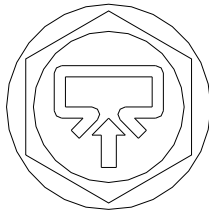

Figure 2.2a: oil filling plug
- Unscrew oil filling plug (figure 2.2a) above the oil level glass.